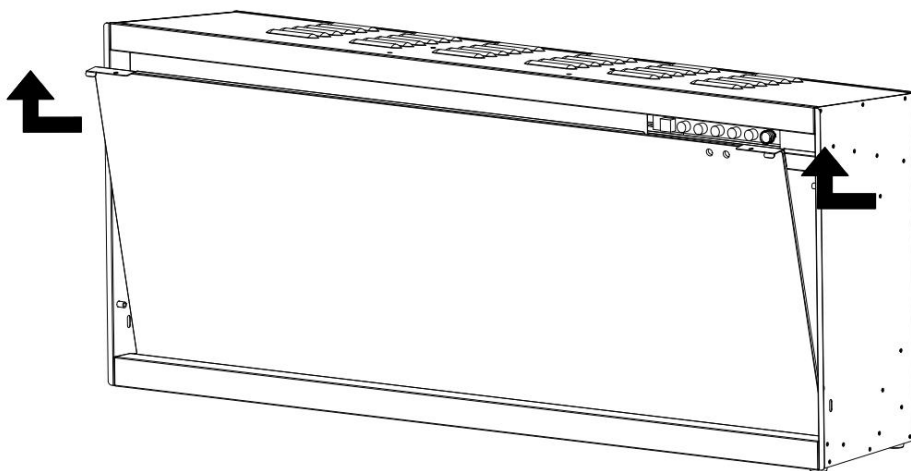

Fig. 2-3
C. Carefully lift the front glass up and away from the appliance. Place it face down on a soft, non-abrasive surface. (Fig. 2-3)